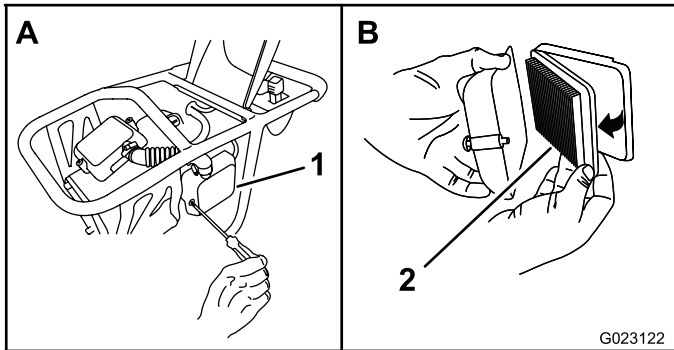

Figure 17
1. Remove the screws that secure the cover to the air-filter housing (Figure 17)
2. Remove the air filter from the housing as shown in Figure 17.